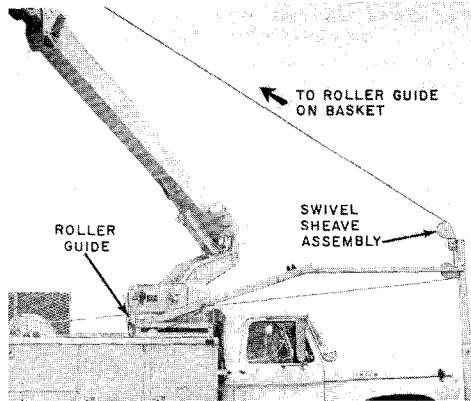
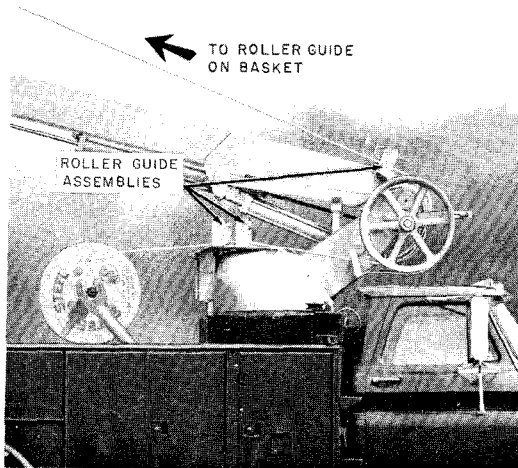
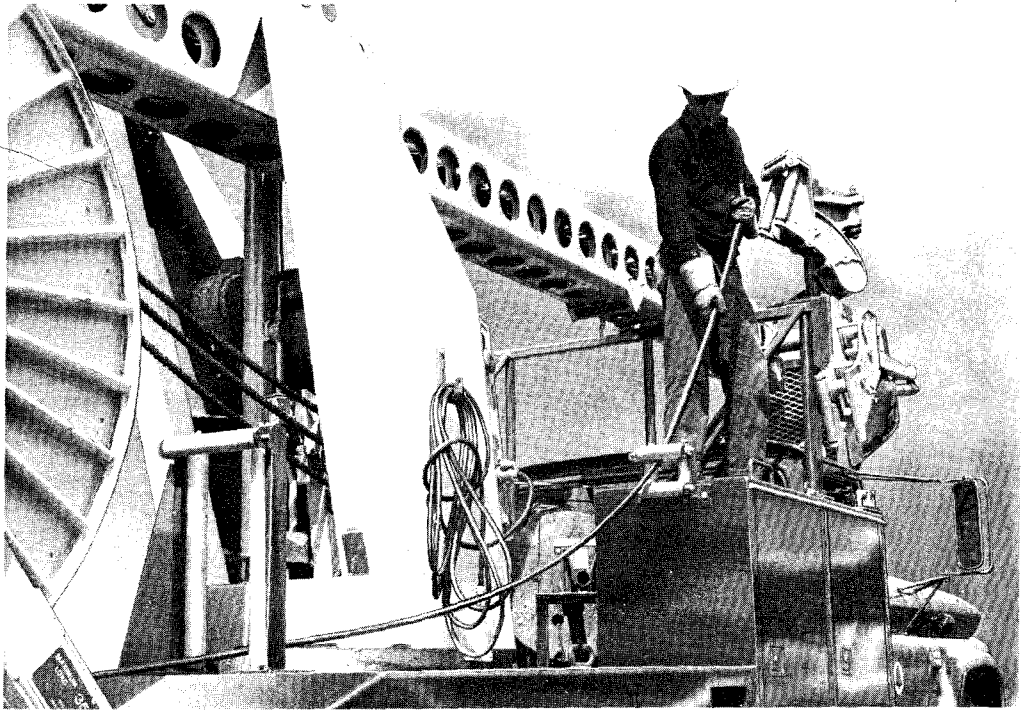
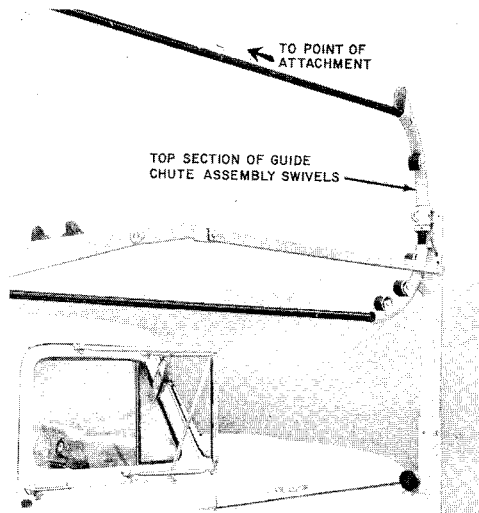

Fig. 4—Using Strand Reel Carrier on SERVI-LIFT Mode T-29-MC for Strand Placing Operations
Fig. 5—Using Strand Reel Carrier on SERVI-LIFT Model S-31-MT for Strand Placing Operations
Fig. 12—Threading Cable Through Guides on TELSTA
Fig. 14—Cable Threaded Through Guide Chute Assembly on SERVI-LIFT
- (1) Position the strand reel at the rear of the truck so the strand will pay out forward off the top of the reel when the reel is in the reel carrier.
- (2) With the reel clamp positioned on the shaft, fit the 2-inch spindle (with brake) into the center hole of the reel so the brake will be on the left side of the reel when the reel is in position on the reel loader. An extra hole may have to be drilled in the reel to accept the pin on the reel clamp.
- (3) Place a centering cone on the shaft to hold the reel firmly against the reel clamp and tighten the setscrew to hold reel in place.
- (4) Lower the reel loader and position the reel so the ends of the spindle are above and in line with the supports on the ends of the loader arms.
- (5) Raise the loader slowly until the spindle is cradled in the supports. Lock the spindle in place.
- (6) Raise the loader until the reel rests on the truck bed. Align the reel carrier with the spindle, release the spindle from the reel loader, and transfer the reel to the reel carrier. Lock the spindle in place on the reel carrier and raise the carrier to place the reel in the pay-out position.
- (7) On the SERVI-LIFT Model T-29-MC, thread the strand forward from the reel, through the roller guide at the base of the turret, upward through the two guide sheaves on the mast, and then through the roller guide on the basket. (See Fig. 4.) On the SERVI-LIFT Model S-31-MT, thread the strand forward from the reel, through the roller guides on the turret, through the roller guide at the bottom of the bull wheel, around the bull wheel, through the roller guide at the top of the bull wheel, and through the roller guide on the basket. (See Fig. 5.)
2.05 With the strand reel raised to the pay-out position, thread the strand forward through the guides on the SERVI-LIFT in the manner shown in Fig. 4 and 5. For the TELSTA, thread
bull wheel as shown in Fig. 12 and 13. Be sure to remove the locking pin to permit the sheave to swivel freely. Pass the cable from the main guide sheave directly to the point of attachment aloft. **Do not pass cable through the roller guide at the work basket.** The SERVI-LIFT model with folding booms and the SKYWORKER have a roller guide mounted above the main guide sheave. Pass the cable through this guide in the same manner used for strand (see Fig. 5 and 10), but do not use the guide at the work basket. The SERVI-LIFT with the telescoping boom is equipped with a forward mounted guide chute assembly (Fig. 14). The cable passes through the assembly and directly to the point of attachment.